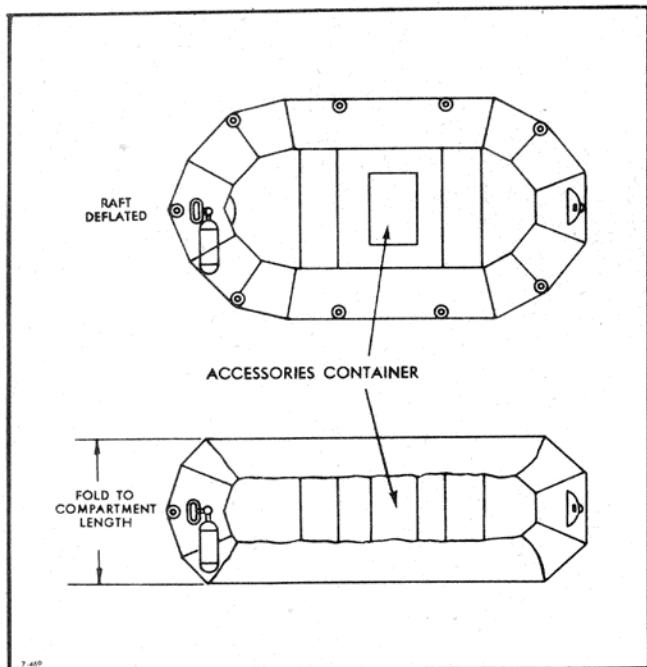

Figure 342—Folding Raft for Stowage
d. Unroll the raft and lay out flat on a clean surface. (When no clean floor space is available, use the top surface of the wing.) Insure that it is completely deflated by either rolling it tight or by using a deflation pump (figure 342). If a CO2 bottle is not already attached to the raft, put a fully charged bottle in the raft pocket and screw the wing nut of the raft manifold